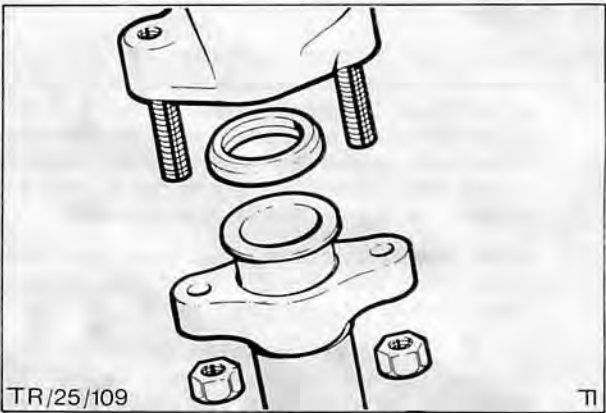

Fig. 12. Exhaust manifold/front down pipe clamping with sealing ring
- 5. Disconnect exhaust front down pipe from exhaust manifold by removing two nuts and allow down pipe free movement. Remove manifold sealing ring, Fig. 12.